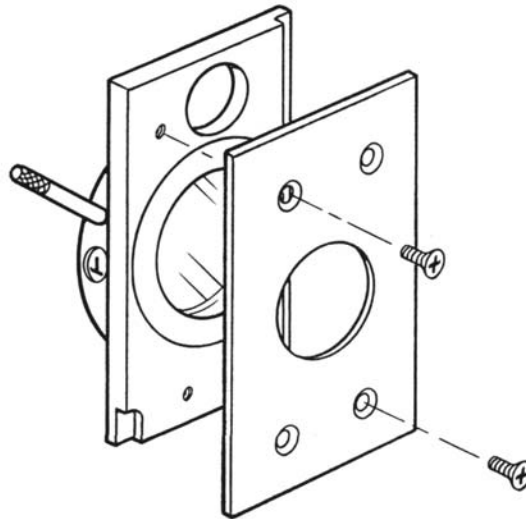

Figure 22 • Polarizer Mounted on Sample Slide Plate
- Orient the slide plate so the countersunk holes face away from the flat side of the polarizer holder (Figure 22).